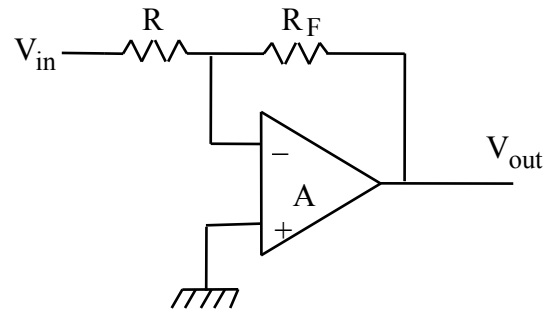

Figure 4.3 Inverting Amplifier
The basic inverting configuration is shown in Figure 4.3. Since the positive input is grounded, the op-amp will do everything it can to keep the negative input at ground as well. In the limit of infinite open loop gain the inverting input of the op-amp is a virtual ground, a circuit node that will stay at ground as long as the circuit is working, even though it is not directly connected to ground. Since the op-amp inputs draw no current, it follows that
4. (2 points) Design an inverting amplifier (Fig. 4.3) with a closed-loop gain somewhere between 10 and 100. Select appropriate values for  $R$  and  $R_F$ . Choose  $R_F$  large enough so that the maximum output current of the op-amp is not exceeded when the output is near the saturation voltage. Predict the bandwidth and the input impedance at the signal input. How would you measure the input impedance in the lab? [The DMM is not going to properly read the input or output impedance when connected to a circuit because of all the other resistors and bias voltages present. Here is a hint: Recall that when the signal generator with a 50  $\Omega$  output impedance has a 50  $\Omega$  load the signal into the load drops by a factor of two.]